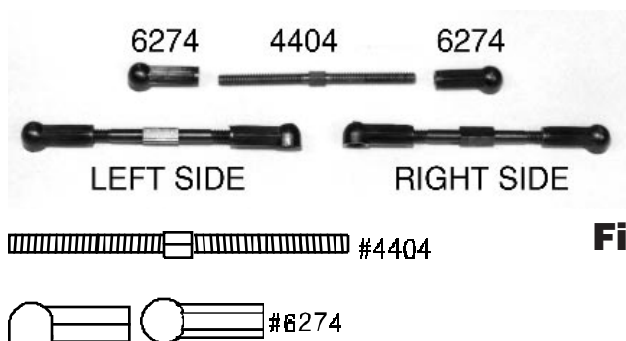

Fig. 81
**Figs. 81 & 82** Now we need to take out the two #4404 turnbuckles and four #6274 plastic ball end cups. Screw one #6274 plastic ball end cup onto the end of each turnbuckle evenly. The turnbuckles have left hand threads on one end and right hand threads on the other end. This means the ball end cups will thread on in opposite directions. Adjust the ball end cups until you reach an adjusted length of about 2 3/16" (about 55.5mm or 2.18"). **All measurements are done from the center of the ball cup hole to the center of the opposite ball cup hole.** Because the servos may place the output shaft in slightly different positions you will have to fine tune the front toe-in after everything is installed. Notice the difference in the direction the ball cups face on opposite ends of the same turnbuckle. Also the right and left turnbuckles will be facing in opposite directions as shown in fig. 81.